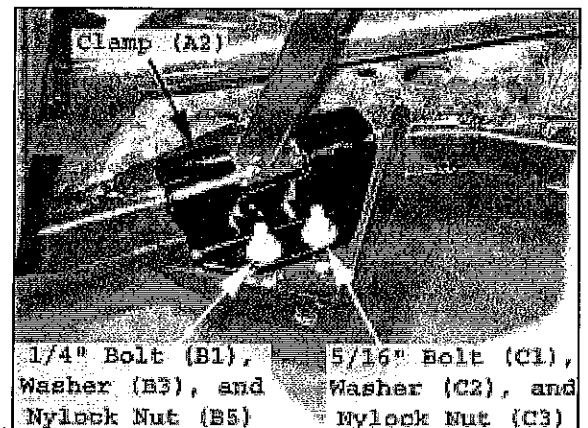

Figure 5 Attach Right Clamp
3. Attach a Clamp (A2) to the right side of the vehicle using a 1/4" dia-1" long bolt (B1), 1/4" washer (B3), and 1/4" nylock nut (B5) for the outer hole and a 5/16" dia-1" long bolt (C1), 5/16" washer (C2), and 5/16" nylock nut (C3) for the inner hole as shown in Figure 5. Tighten nuts and bolts securely.